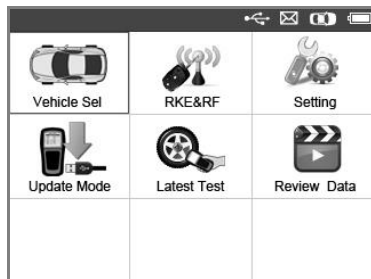

Figure 2.1
- 4) Power up the TPMS tool by pressing the **Power Button**, and wait for the Main Menu to appear. (Figure 2.1)
- 1) Use the **UP/DOWN** scroll button and **LEFT/RIGHT** scroll button to select **Vehicle Selection** from **Main Menu** (Figure 2.1), and press the **Y** button to confirm.